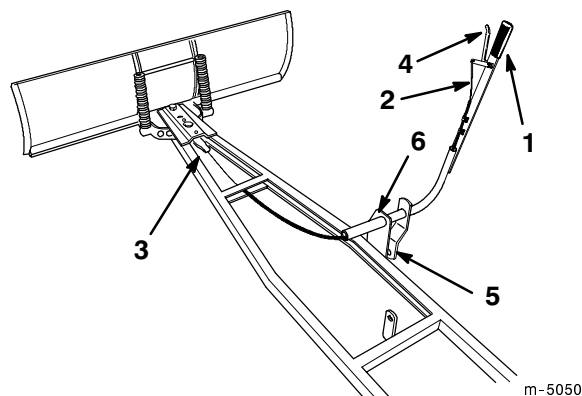

Figure 8
4. Insert the handle into the handle mount and rotate it to the 12:00 o'clock position (Fig. 8).
5. Insert the rear end of the angle control rod into the bottom of the control handle and secure it with a large hairpin cotter (Fig. 8).
6. Thread the balled end of the cable through the tube on the handle (Fig. 8).
12. Attach the cable bracket to the angle pin at the blade assembly (Fig. 8 & 11) with a 1-1/4 in. cotter pin.